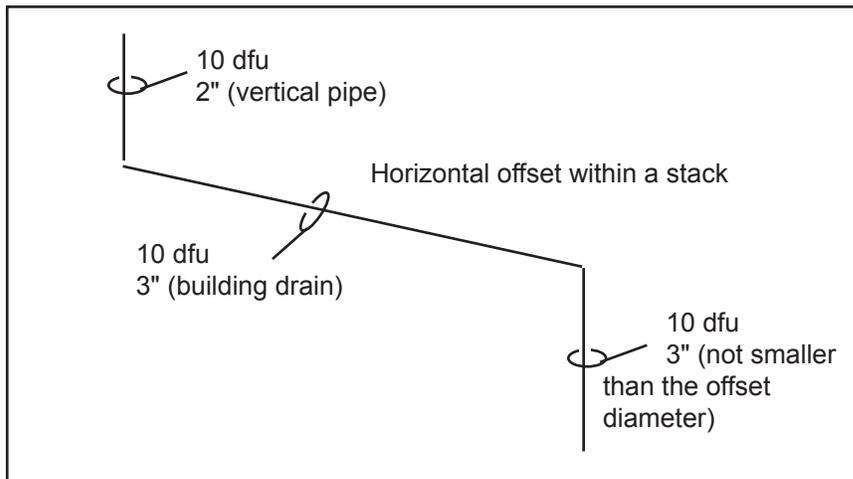

Figure 35. Horizontal offset - minimum diameters
1. Where a horizontal offset occurs within a stack (regardless of the number of branch intervals) the offset piping must be sized as building drain. The size of the stack below the offset will also be affected as there can be no reduction in size in the direction of flow. (Figure 35)